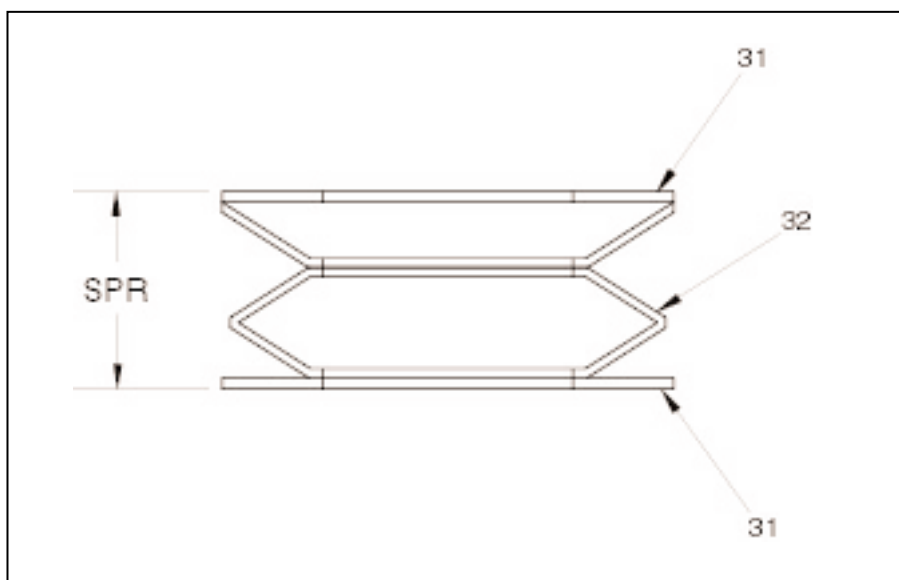

Figure 16.4 SPRING ASSEMBLY.
1. Measure spring (32) & washers (31) shown in figure 16.4 (SPR).